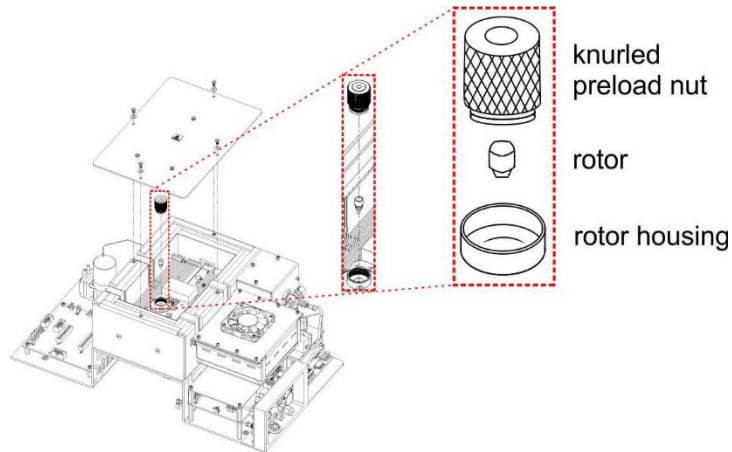

Figure 5-8. Rotor Housing Disassembly
4. Referring to Figure 5-8 turn the knurled preload nut counter-clockwise to remove it from the rotor housing atop the injector valve body. This exposes the top of the rotor.